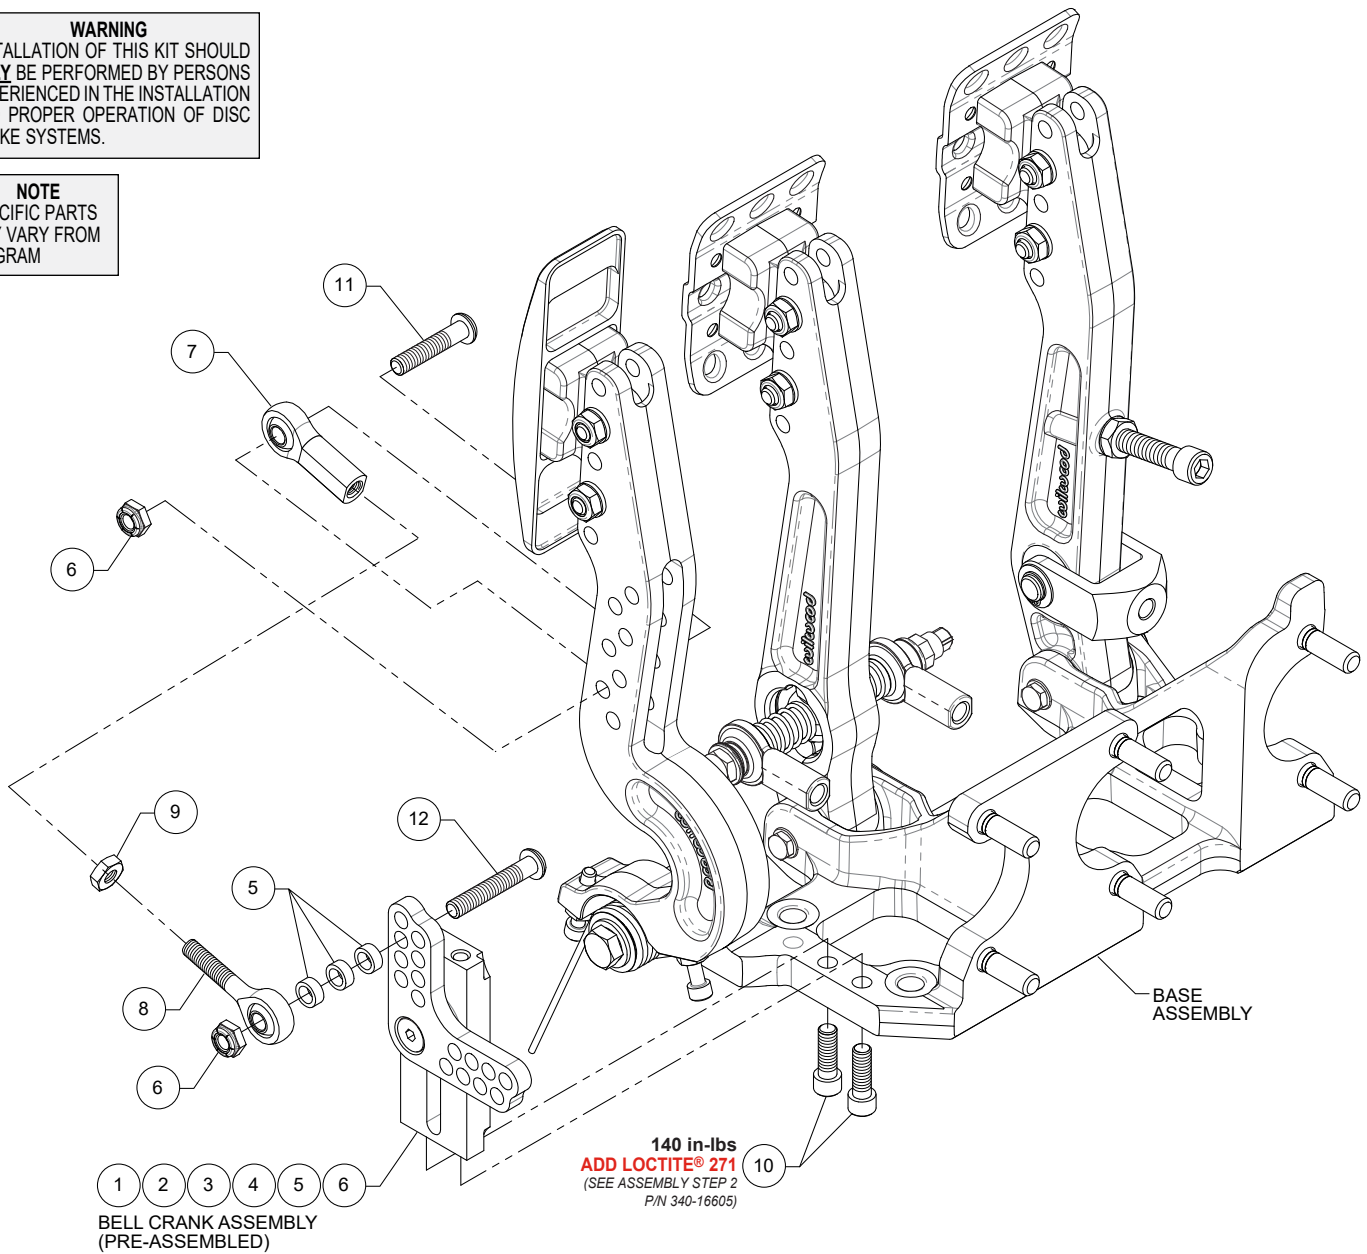

Figure 2. Throttle Linkage Assembly Configuration for Pedal Assembly p/n 340-16605
NOTE: Numbers in parenthesis refer to the parts list and Figure 2 on page 4.
STEP 2 Orient the bell crank assembly as shown in Figure 2 and attach to the pedal base using bolts (10). Apply red *Loctite*® 271 to the threads and torque to value shown in Figure 2.
STEP 3 Assemble the connecting rod. Screw jam nut (9) onto male bearing end (8) and then screw the female bearing end (7) onto the male end, Figure 2. Do not tighten jam nut at this time.
STEP 4 Install female bearing end (7) of the connecting rod into throttle pedal using bolt (11), and nut (6), as shown in Figure 2.
STEP 5 Attach the male bearing rod end (8) to the bell crank assembly using bolt (12), three spacers (5), and lock nut (6) as shown in Figure 2. **NOTE:** The bell crank assembly can be set up for a variety of throttle ratios. Final adjustment of the bell crank and connecting rod to be performed after pedal installation in vehicle.